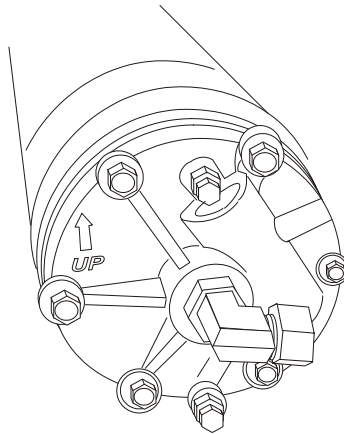

Figure 2.4
- Apply Loctite pipe thread sealant and install a fitting to the outlet on the tank. A 90 degree fitting is recommended. Tighten it to about the four o'clock position for testing, then reposition as required for final connections (Figure 2.4).
- Wrap the two tank cable straps around the tank strap mounts. Make sure that they fit in the upper and lower cut-outs of the tank strap mounts (Figure 2.4).